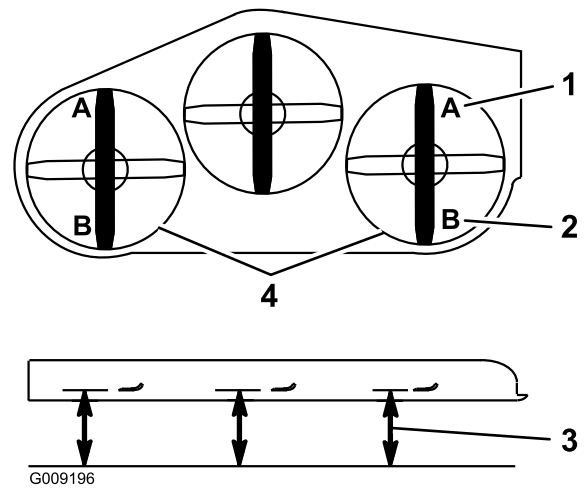

Figure 92
9. On both sides of the deck, measure from the level surface to the front tip of the blade (Position A) as shown in Figure 92.
16. On both sides of the deck, measure from the level surface to the back tip of the blade (position B) as shown in Figure 92.